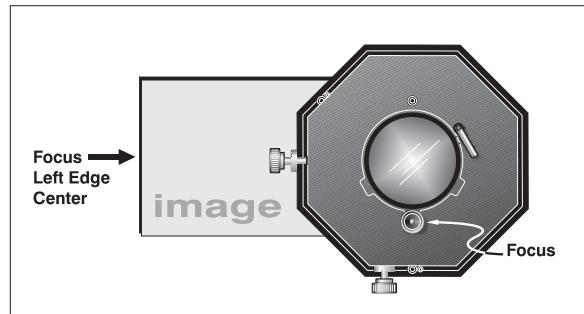

Figure 2.36 Adjust Focus at Left Edge
1. Adjust focus at the far left center edge of the image (Figure 2.36). If possible, reduce image size for easier image analysis.